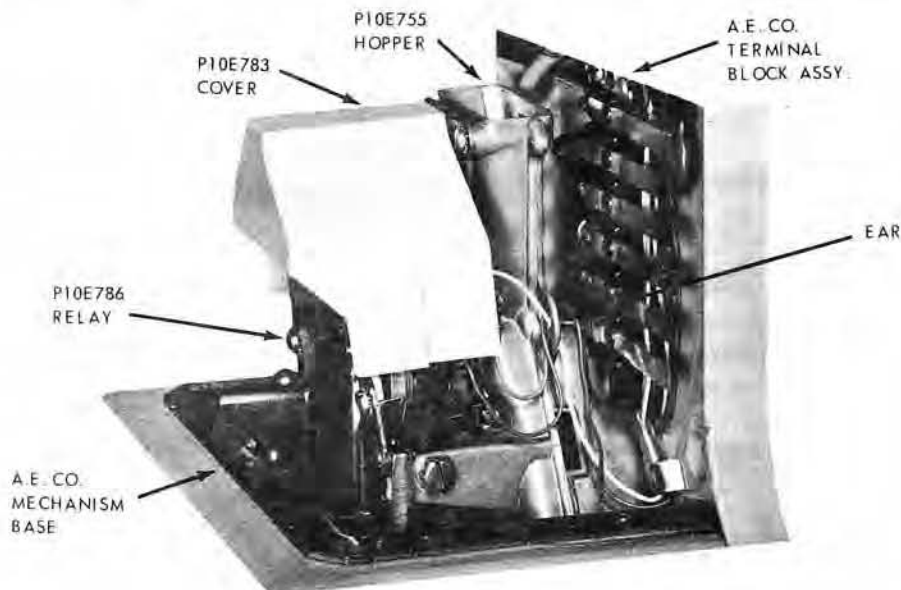

Figure 1. P11E964 Relay and Hopper Assembly, Installed in A.E. Co. Coin Telephone Set.
1.03 Figure 1 shows a relay and hopper assembly of domestic manufacture. Slight variations in construction may be noted in the Canadian product.